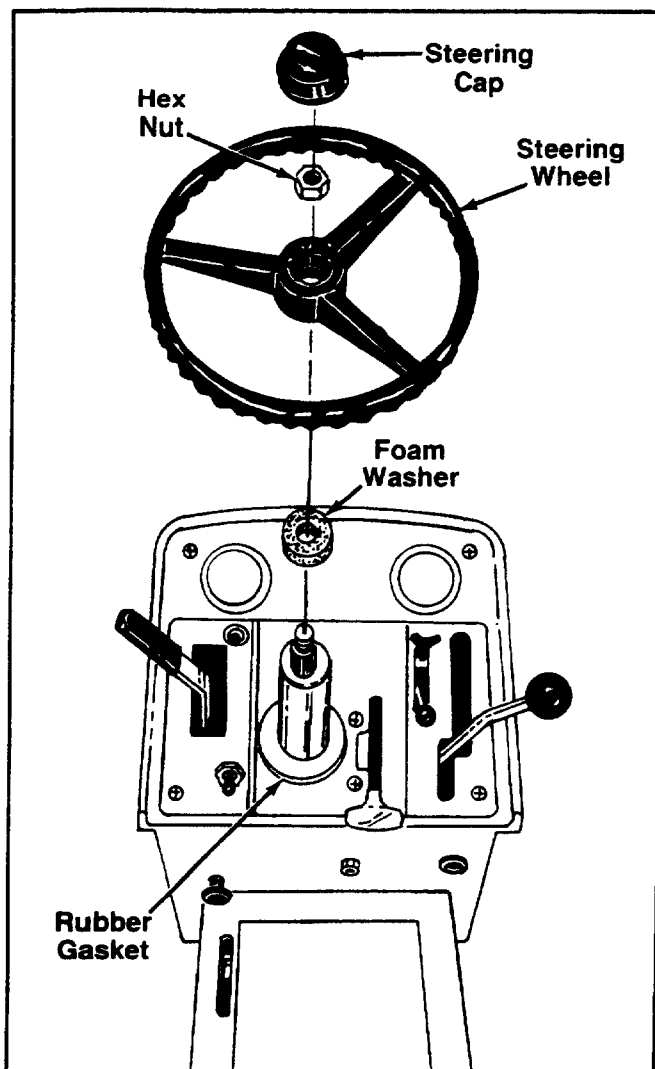

FIGURE 8.
6. Remove the steering wheel cap, using a screwdriver or suitable tool. See figure 8.
7. Remove the steering wheel, by removing the hex nut. Remove foam washer and rubber gasket. See figure 8. Retain all items for reassembly of steering wheel.